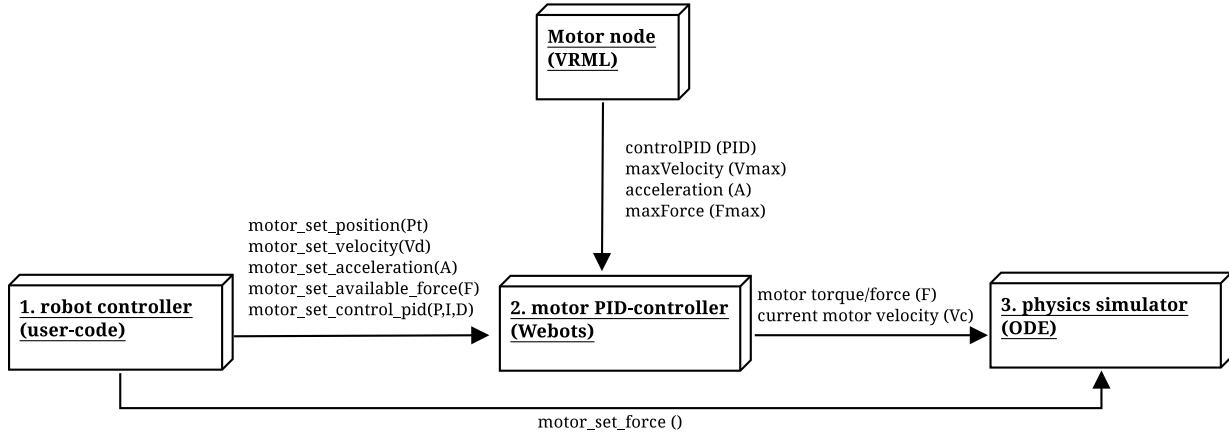

Figure 3.33: Motor control
In Webots, position control is carried out in three stages, as depicted in figure 3.33. The first stage is performed by the user-specified controller (1) that decides which position, velocity, acceleration and motor force must be used. The second stage is performed by the motor P-controller (2) that computes the current velocity of the motor  $V_c$ . Finally, the third stage (3) is carried out by the physics simulator (ODE joint motors).